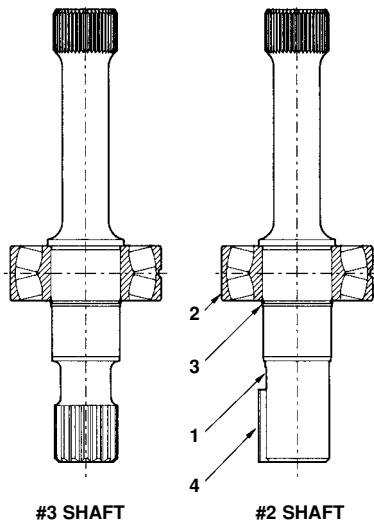

FIGURE 1
See figure 1. Slide the bearing (2) over the short end of the shaft and seat against the shoulder. Support only the inner race of the bearing and press on the long end of the shaft, to install bearing.
PARTS LIST FOR FIGURE 1 S23-12474 DRIVE SHAFT #3 ASSEMBLY SPLINED S23-12475 DRIVE SHAFT #2 ASSEMBLY KEYED